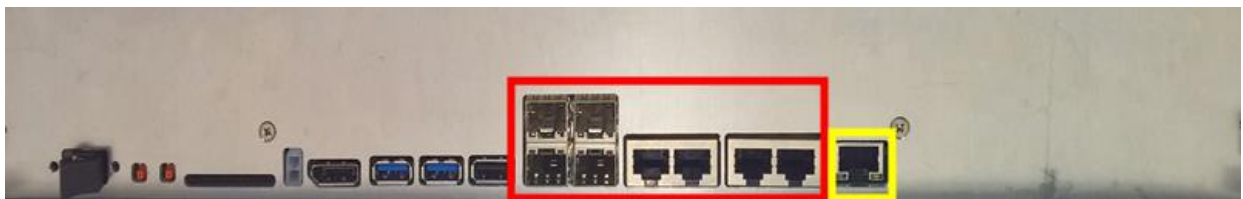

Figure 7: Root card front panel: Ethernet connections from internal switch marked red.
- 1 Ethernet cable for the switch of the root card (Q7, OS of the nodes and the BMC of the nodes) – to be connected to one of the connectors marked in red in Figure 7.
- 1 Ethernet cable for the BMC of the root card – to be connected to the connector circled in yellow in Figure 7.